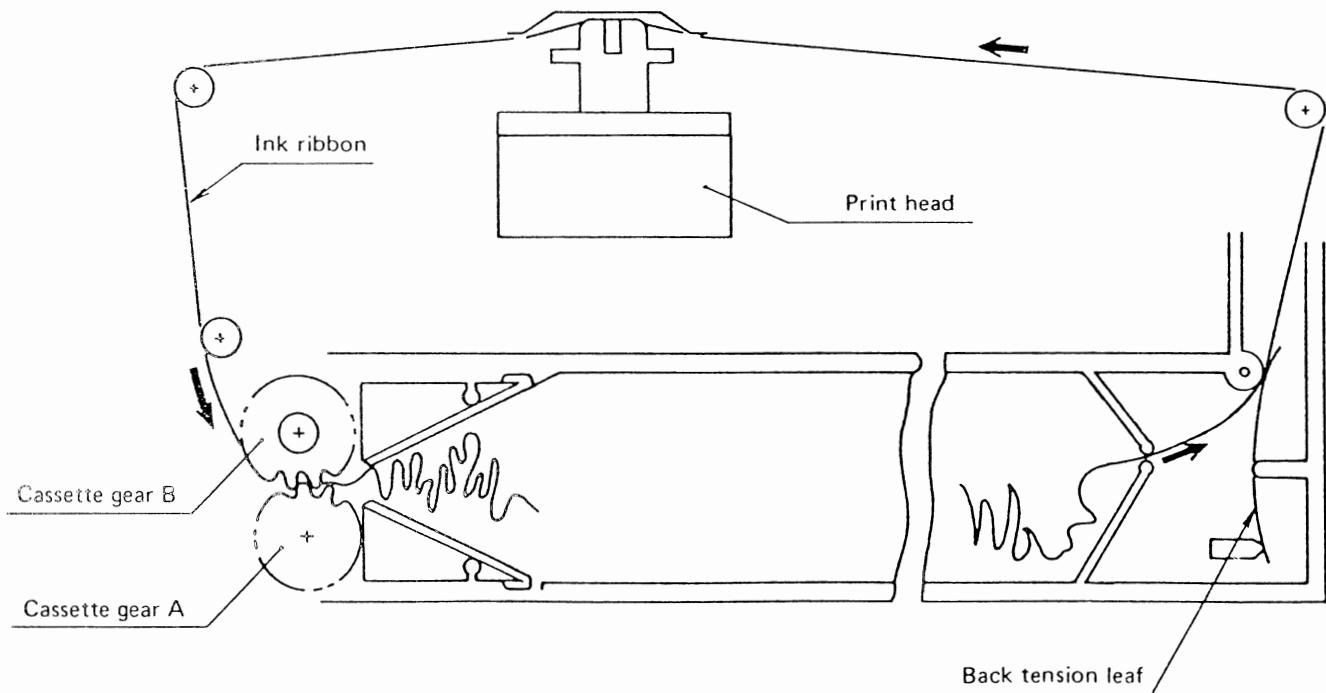

Fig. 4
#### **(2) Ribbon cassette mechanism (see Fig. 4)**